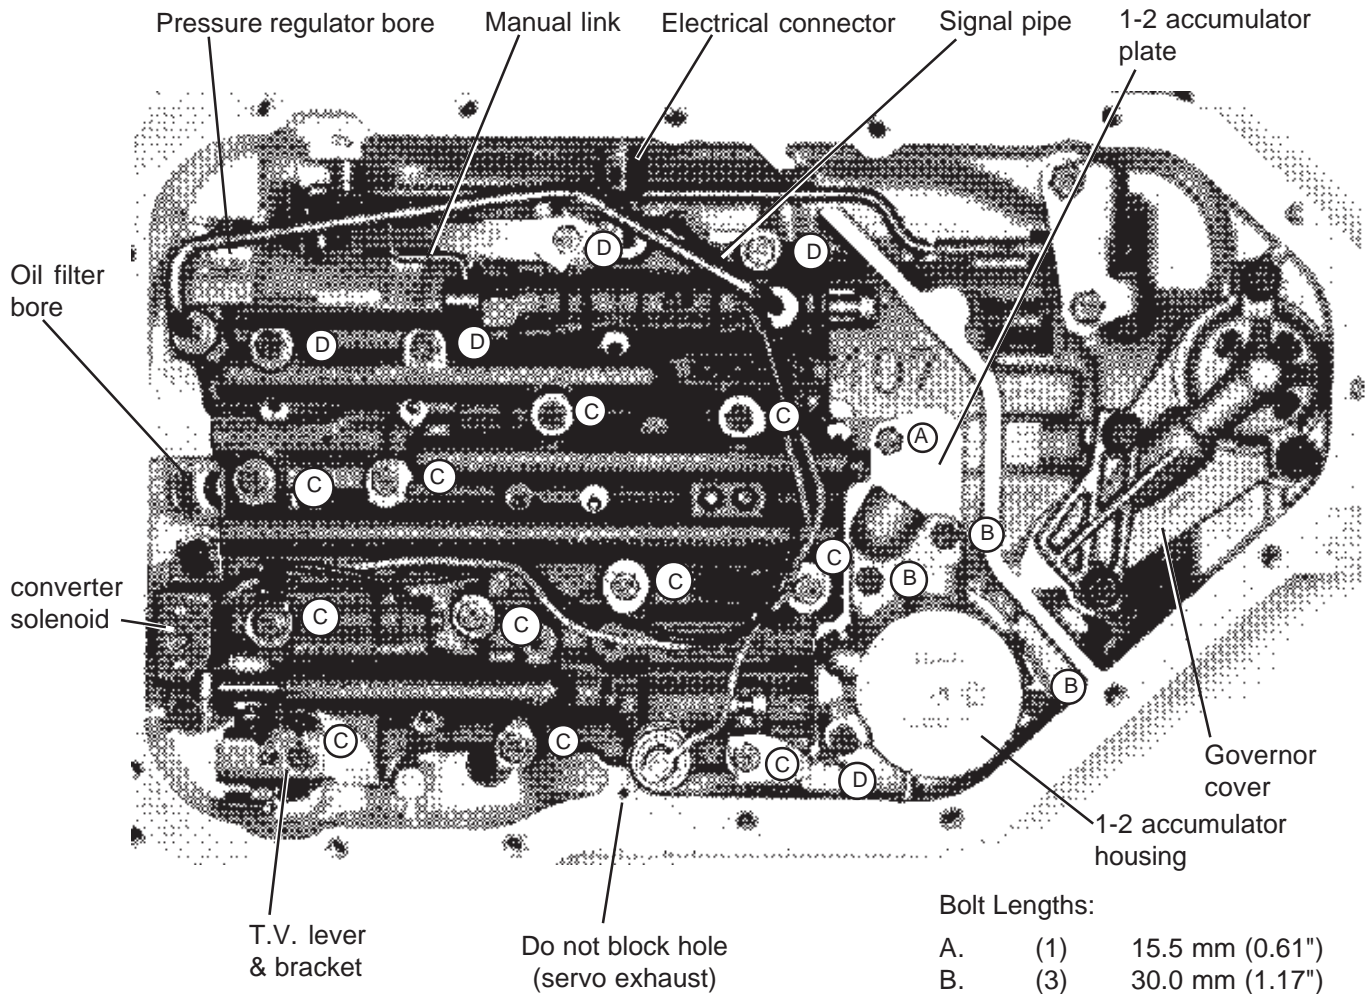
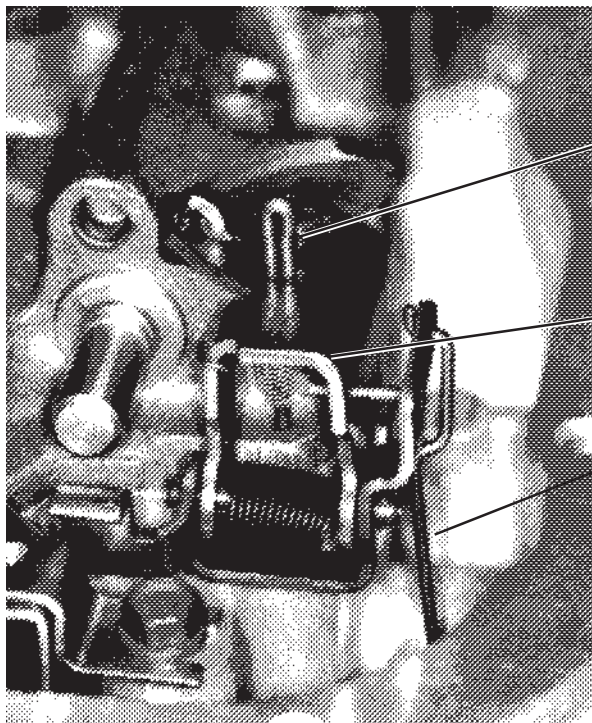

Fig. 1. Valve body and accumulator installed.
Fig. 2. T.V. Lever and Bracket.
STEP 3. (See Fig. 1) There are a variety of different wiring harnesses used on the TH-200-4R. Before proceeding further make a sketch and some notes describing your particular unit, recording which connectors go to which switch. Disconnect the T.V. cable connector from the throttle lever on carburetor or throttle body. Remove connectors from switches. Unplug the wiring harness from case electrical connector by prying the lock tab away from the plug and pulling down on the plug, **do not pull on the wires.** Removing solenoid is not required, just tie the wires up out of the way. Remove signal oil pipe, detent spring, and the throttle valve lever and bracket assembly, (see Fig. 2.)
STEP 4. Remove all valve body bolts **except** the center one (See Fig. 1.) Hold the valve body up firmly with one hand and remove the remaining bolt slowly. Lower the valve body and disengage the manual valve link. There are several check balls in the valve body along with several pints of oil. Have your drain pan ready to catch the oil and check balls (should they fall out.) Save all (12) check balls in a safe place where they won't get lost.
draw the accumulator up to the case. **STEP 16. Valve body installation.** Make sure check balls are in proper locations. Position the manual valve so the link rod can be engaged (See Fig. 1.) Do not force the manual valve at any time. When the link and manual valve are fully engaged, align the valve body and case holes then install one bolt finger tight to hold valve body in place. **Important:** Make sure the manual valve link is located as shown.
STEP 17. Install the throttle valve (TV) linkage onto the valve body as shown, make sure the T.V. exhaust checkball lifter rod is correctly assembled. (See Fig. 2.) **IMPORTANT NOTE:** The T.V. cable **MUST** be reset before operating vehicle refer to **step 22.**
STEP 18. Carefully insert ends of the signal oil pipe in their respective bores and push them in evenly until fully engaged. Engage all of the remaining bolts to finish lining up the separator plate and gaskets (See Fig. 1.) Tighten all the valve body and accumulator bolts to 11 NM (8 Ft. Lb.) Avoid stripped threads, Do not over tighten bolts.
(Fig. 1) is not obstructed. Place pan up to case, align holes and install all bolts finger tight. Tighten bolts to 14 NM (10 Ft. Lb.) Do not over tighten bolts. If the bolts are over tightened the gasket will deform excessively and result in oil leaks.